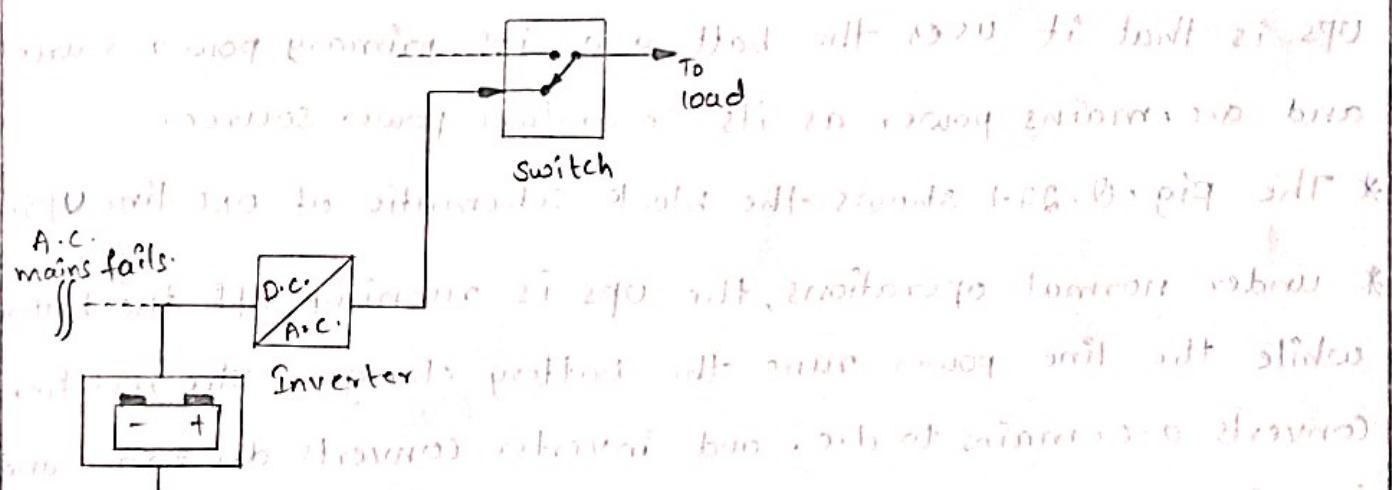

Fig. Q.27.2 Path when A.C. mains fails.
* Under normal operations, the UPS is running off the battery while the line power runs the battery charger. The rectifier converts a.c. mains to d.c. and inverter converts d.c. to a.c. and is given to the load. Thus there are two conversions in this type of UPS hence it is called double conversion ON line UPS. As inverter is always working in normal conditions, it is also called inverter preferred. The normal operation path is shown by dark line in the fig. Q. 27.2.
a case. This path is shown in the fig. Q.27.2 The time required by UPS to transfer on battery is called transfer time which is important characteristics of UPS. But in ON line
* Now let us understand the importance of the secondary power path. It is shown dashed in the fig. Q. 27.2. It comes into the action if the inverter fails. The transfer switch automatically changes from position 1 to position 2, to switch the load on a.c. mains. The spike protector protects the load from position 1 to position 2, to switch the load on a.c. mains. The spike protector protects the load from surges in line power and filters them out. In this switch over, transfer time is important which should be as small as possible. But in practice, main power failures are much more common than the inverter failure.